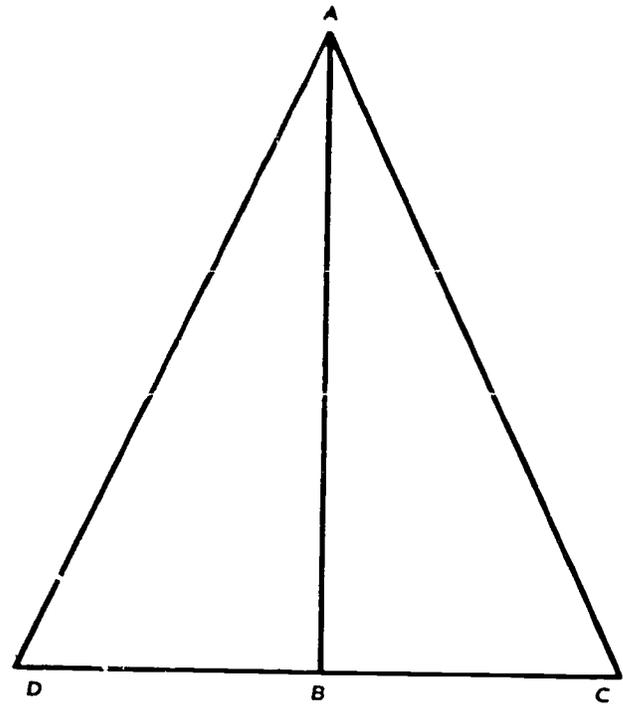

Figure 3-11. Isosceles triangle.
Triangles. A triangle is a three-sided plane figure, such as that shown in figure 3-11. The sides of a triangle are the
lines which bound or inclose it, and the sum of the included angles is always 180°. The base of a triangle is the side upon which it is supposed to stand; therefore, any side may be the base. The angle opposite the base is called the vertex angle, which is the point opposite to and farthest from the base. The altitude or height of a triangle is the perpendicular distance from the vertex to the base. In figure 3-11, A is the vertex angle, line DC is the base, lines AD and AC are the sides, and line AB is the altitude. The triangle illustrated in figure 3-11 is an isosceles triangle, in which two sides are equal, as shown by DAC. Side DA is equal to side AC. The unequal side (DC) of an isosceles triangle is usually called the base.